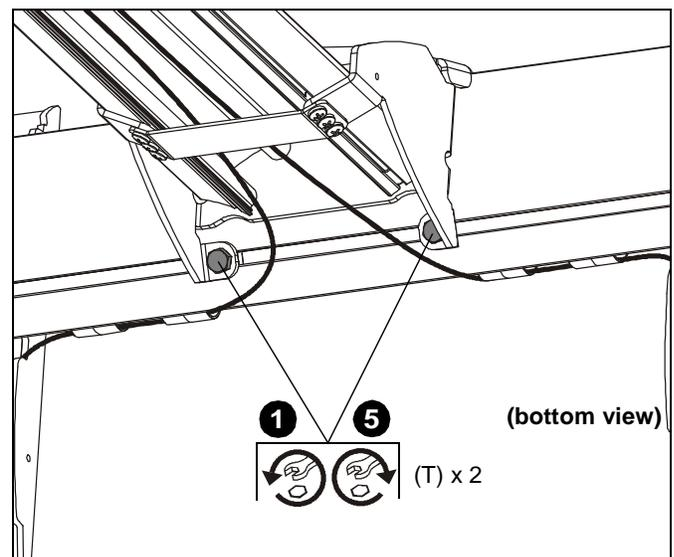

Figure 35
1. Loosen two 1/4-20 x 5/8" hex head cap screws (T) on underside of mounting bracket. (See Figure 35)
5. Tighten two 1/4-20 x 5/8" screws (T) on underside of mounting bracket. (See Figure 35)